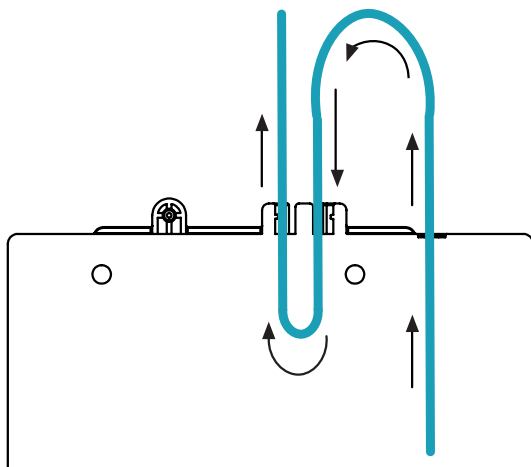

Fig. 12: Creating a Cable Loop
2. Ensure the cable is routed correctly. For correct operation, a 10cm Cable Loop must be routed. Use the Cable supports on the back edge of the Control Box to help you do this (Fig. 12).
NOTICE To avoid product damage, ensure a 10 cm Cable Loop is routed (Chapter 6.3.2, Fig. 12)